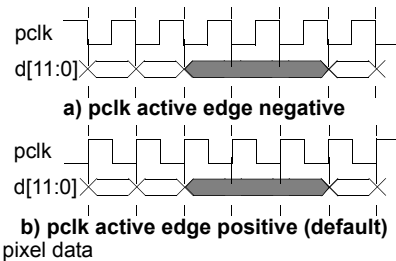

Figure 39. *pclk* in Free Running Mode
- In free running mode the pixel clock output pin, *pclk*, is always running with a fixed period. Pixel data appearing on the digital video bus  $d[11:0]$  are synchronized to a specified active edge of the clock as shown in Figure 39.